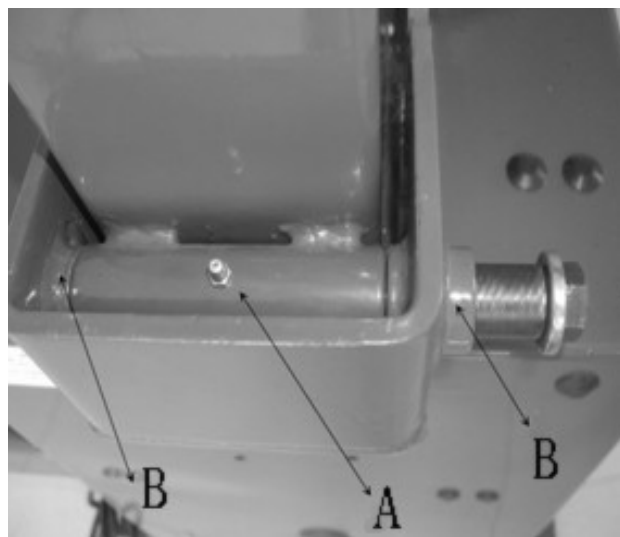

Fig4-3
4.2.7 Lift up the column and insert the PU hose (Fig4-3 A) at the bottom into the open at the top of the body of the machine (Fig4-3 B). Adjust the position of the column to align the rotation shaft bushing (Fig4-4 A) with the hole of the rotation shaft base (Fig4-4 B). Take the nut and washer at one end of the rotation shaft assembly (Fig4-1 A), making the termination of the shaft about 1mm lower than the base frame. Retighten the washer and nut. The tighten torque is 70N·m.